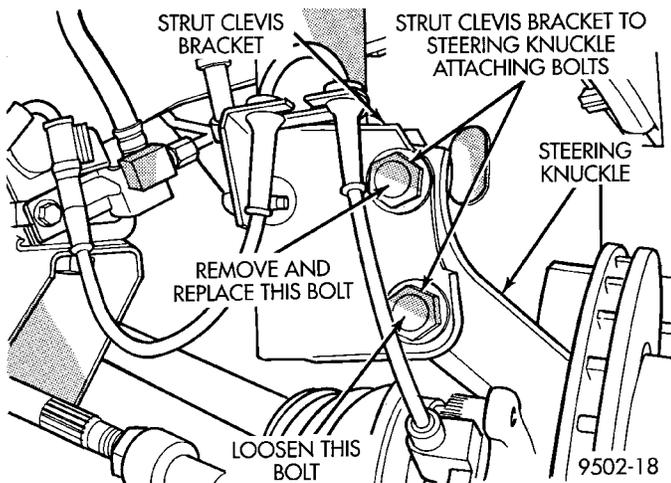
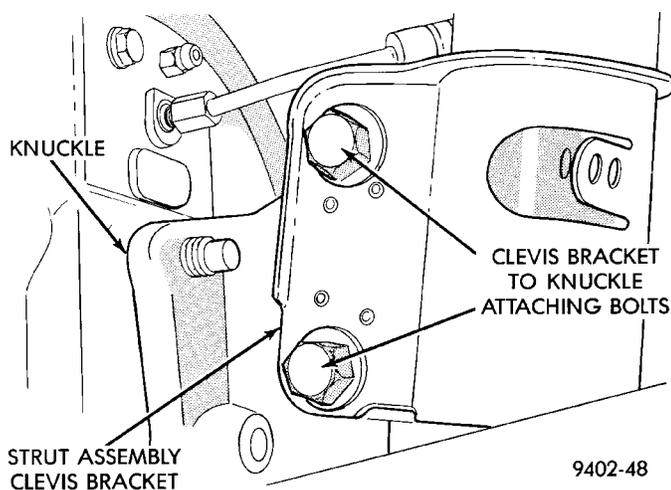

Fig. 2 Front Strut Clevis Bracket To Steering Knuckle Attaching Bolts
Fig. 3 Rear Strut Clevis Bracket Attaching Bolts
(3) Remove original upper bolt attaching the front or rear strut clevis bracket to the steering knuckle or rear knuckle (Fig. 2) or (Fig. 3).
This vehicle has a gas pressurized MacPherson strut front suspension design (Fig. 2).
bracket and steering knuckle (Fig. 2). The top of the strut is mounted directly to the strut tower of the vehicle by the strut mount assembly's 3 studs and attaching nuts (Fig. 2). During steering maneuvers, the strut assembly (through a pivot bearing in the upper strut mount assembly) and steering knuckle (through the lower ball joint) turn as an assembly (Fig. 2).
A cast lower control arm assembly (Fig. 2) is attached to the front suspension crossmember using 2 rubber isolator bushings and to the steering knuckle by means of a ball joint.